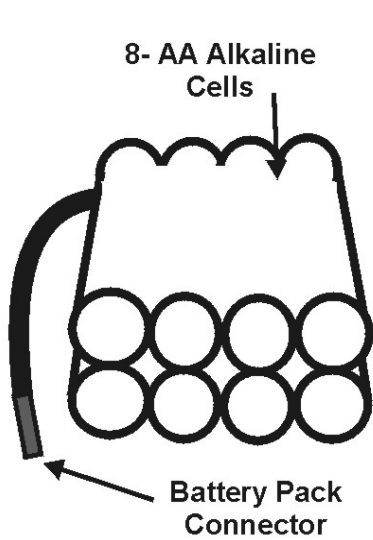
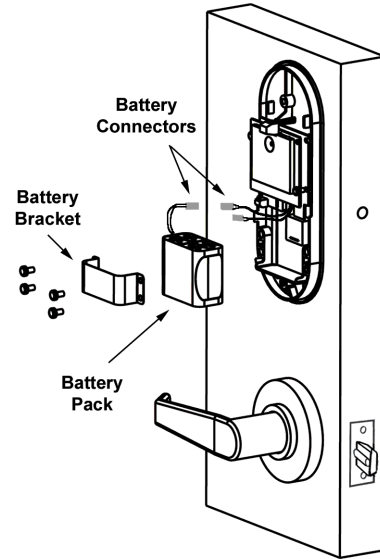

Figure 2-45 – MIRL Battery Pack
Figure 2-46 – MIRL Battery Pack Installation
2.19.1 Install the new Battery Pack (Figure 2-45), install the Battery Bracket, and connect the Battery Pack (Figure 2-46).